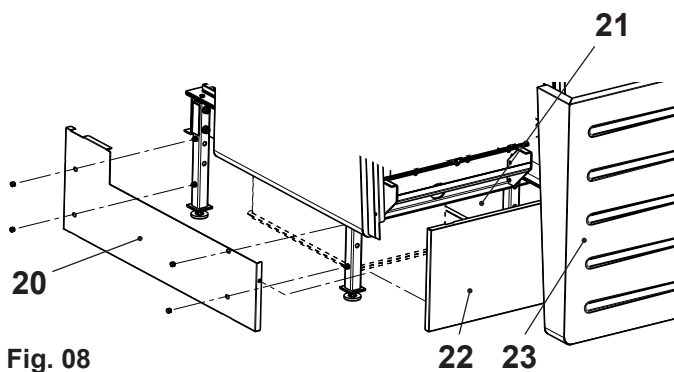

Fig. 08
12. Screw the right and left side walls (20, 21, Fig. 08) using the cap nuts already mounted on the boiler foot.
13. Hook in the front (22, Fig. 08) on the side walls (19, 20).
14. Hook the front cover in (22, Fig. 06, Fig. 08) at the bottom and slide shut at the top.